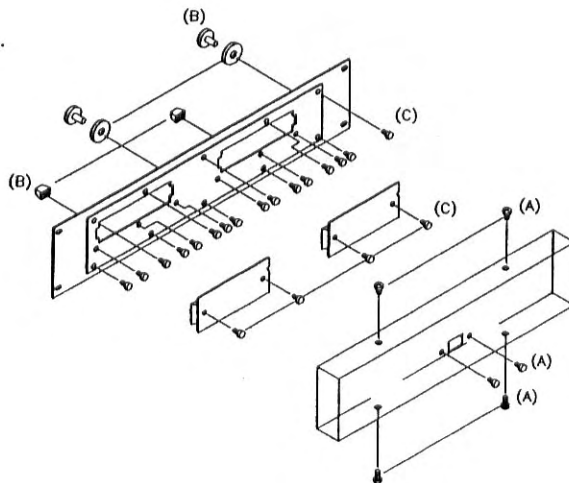

Fig.5
5. REMOVAL OF CONTROL PCB (Fig.5)